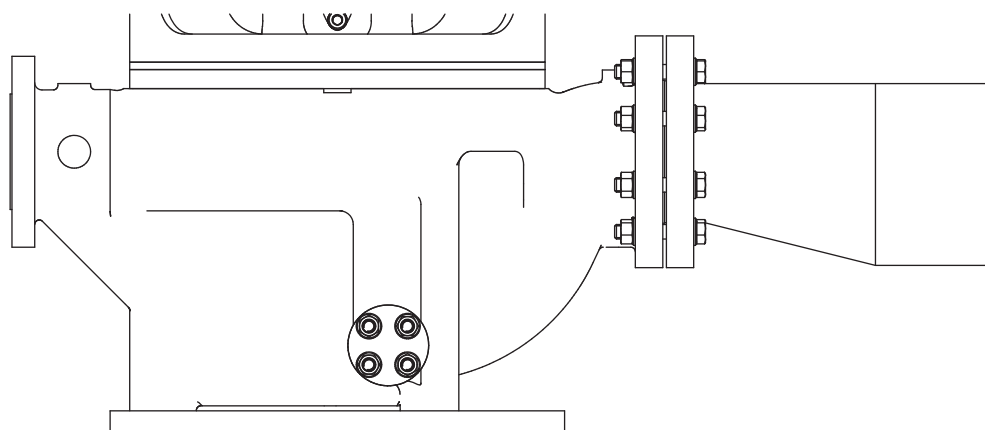

Figure 4: Eccentric reducer to suction flange.
- The passage of the suction pipe must be amply dimensioned. This pipe should be as short as possible and run towards the pump in such a way that no air pockets can arise. If this is not possible, a venting facility should be provided at the highest point of the pipe. If the inside diameter of the suction pipe is larger than the suction connection of the pump, an eccentric reducer should be applied to prevent air pockets and whirls. See figure 4.